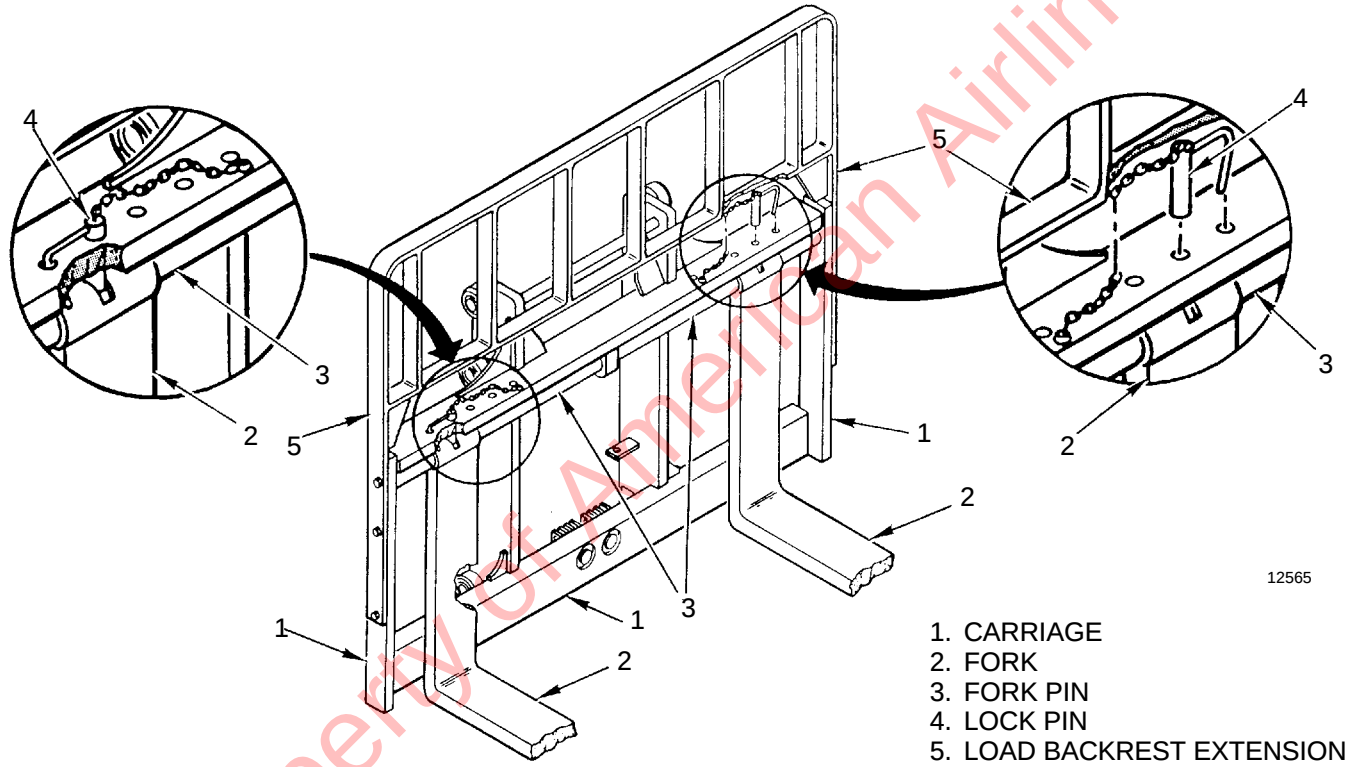
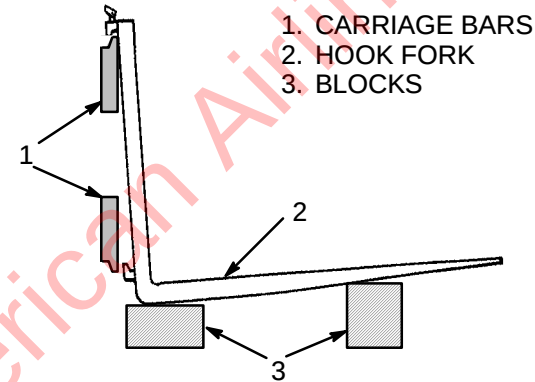

FIGURE 19. PIN FORKS
FIGURE 20. REMOVE A HOOK FORK
**Pin forks** are fastened to the carriage with large fork pins. A lock pin for each fork fits into the top carriage bar and a slot in the fork. These lock pins hold the fork in position. See FIGURE 19. Adjust the forks as far apart as possible for maximum support of the load. Make sure the lock pin is engaged in the carriage bar and the fork. The fork must be locked into position after the adjustment is made.
A fork can be removed from the carriage for replacement of the fork or other maintenance. See FIGURE 19. and FIGURE 20.
**Pin Fork (Removal).** Lower the carriage and put blocks under a pin fork. When the weight of the forks have been removed from the fork pin, remove the load backrest extension. The load backrest extension holds the fork pin in the carriage. Slide the fork pin from its mount in the carriage and through the eye of the fork. See FIGURE 19. Use a lifting device to lift the fork away from the carriage.